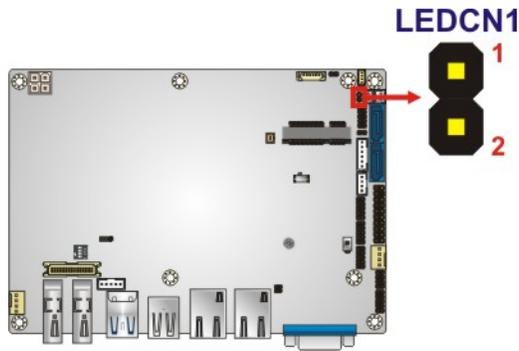

Figure 3-9: IPMI Active LED Connector
- CN Location:** See **Figure 3-9**